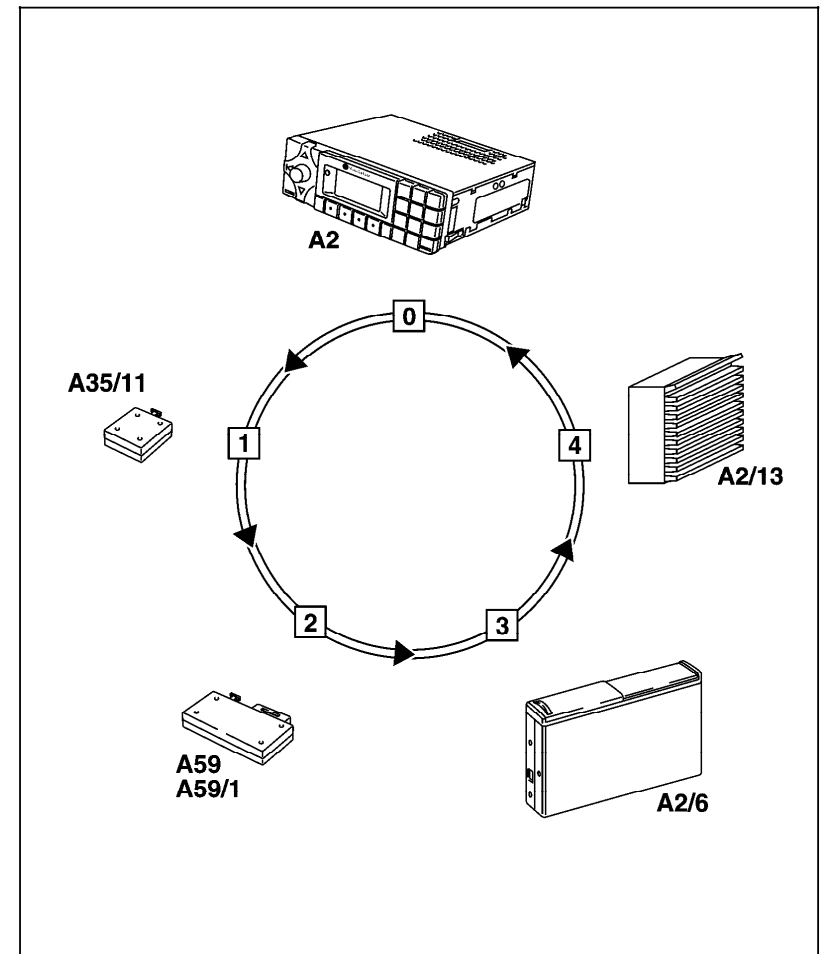

Figure 5
- Readout via DTC memory indicates: No data transfer between radio (or COMAND) and the control module in position 3 (3, Figure 5).
- The CD changer (A2/6, Figure 5) is located in position 3 of the D2B Ring-Loop, see below. Thus the fault may lie either at the receiver unit for the CD changer or in the fiber optic cable to the CD changer itself.
The counting method for determining the position location during the fault finding diagnosis occurs in a **counter-clock wise direction (see arrows, Figure 5)**, which is **opposite** of the **information flow** (which flows clock-wise) within an intact D2B Ring-Loop.